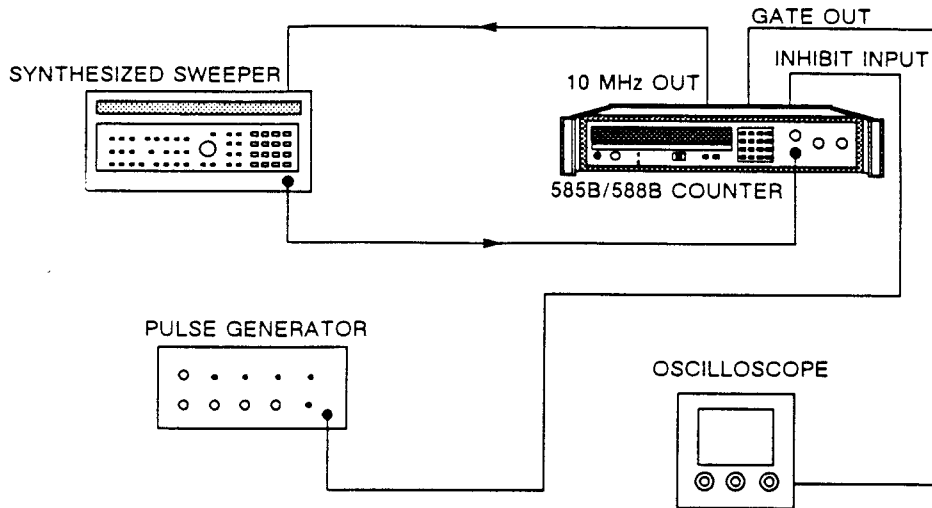

Figure 8-12. Band 1 Averaging Error Test Setup.
1. Connect equipment as shown in Figure 8-12 and turn equipment on.
8. Take 10 measurements by pressing TRIG key 10 times.